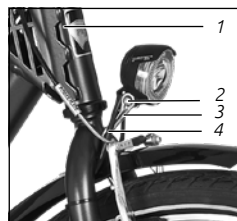

Fig.:38
2. To adjust the holder, turn "screw 1" (see "Fig.:38 (4)") counterclockwise until the holder can be rotated. Turn the holder to the correct position and tighten the screw clockwise with controlled force.
1. Turn "screw 2" (see "Fig.:38 (2)") counterclockwise until the headlight tilts forwards or backwards with slight resistance.